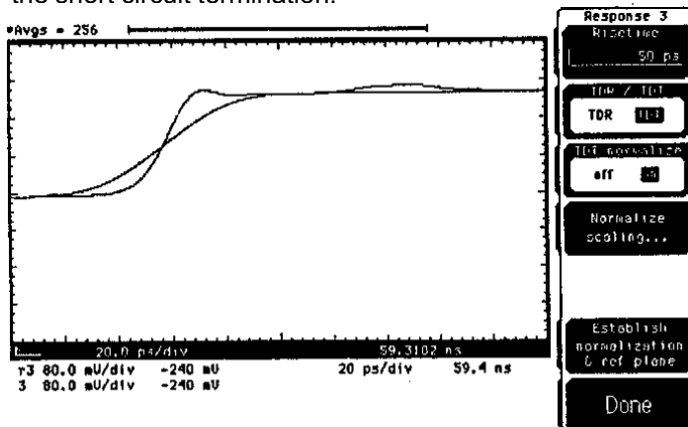

Figure 14: Reflection from Short Circuit Showing Both 4015 TDR Waveform and 50 ps Risetime Normalized Waveform. 20 ps/div.
15. The measured, averaged TDR waveform data from the short circuit will be stored in the scope's memory for later use in "normalizing" later measurements. After the scope has finished its measurement, it will then automatically start "normalizing" the waveform on the screen. The "normalized" waveform will then also be displayed on the screen as "response 3" (r3). See Figure 14. The waveforms shown are the "raw" measured data and the "normalized" data from the short circuit termination.